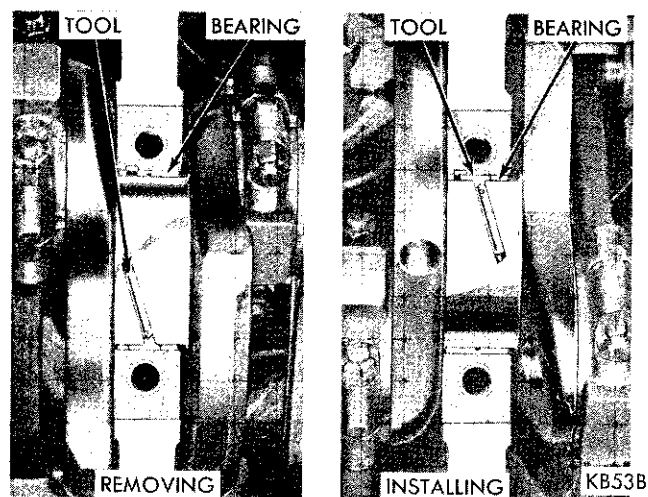

Fig. 47—Removing or Installing Upper Main Bearing
- (1) Remove oil pan and identify bearing caps before removal.
- (2) Remove bearing caps one at a time. Remove upper half of bearing by inserting Tool C-3059 (Fig. 47) into oil hole of crankshaft.
- (3) Slowly rotate crankshaft clockwise, forcing out upper half of bearing.
- (1) Start bearing in place, and insert Tool C-3059 into oil hole of crankshaft (Fig. 47).
- (2) Slowly rotate crankshaft counter-clockwise sliding the bearing into position. Remove Tool C-3059.